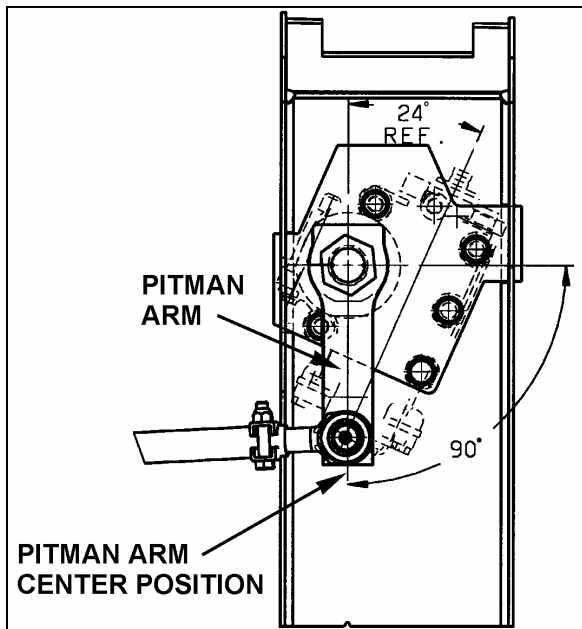

FIGURE 8: PITMAN ARM ALIGNMENT
2. Afterwards, the pitman arm should be adjusted with reference marks aligned or to an angle of 90° in relation with the horizontal axis (Fig. 8).